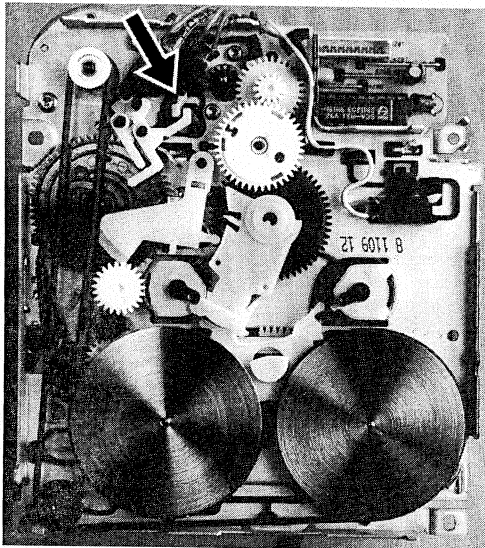

Figure 3
The capstan motor turns in clockwise direction until the deck reaches the "Wind" position (FF / REW - fig. 3/4) and the standby switch closes. At the same time the coupling assy (pos. 65 and 70) and gear rod pos. 54 are uncoupled from the servo motor and swivel lever pos. 47 is released now.